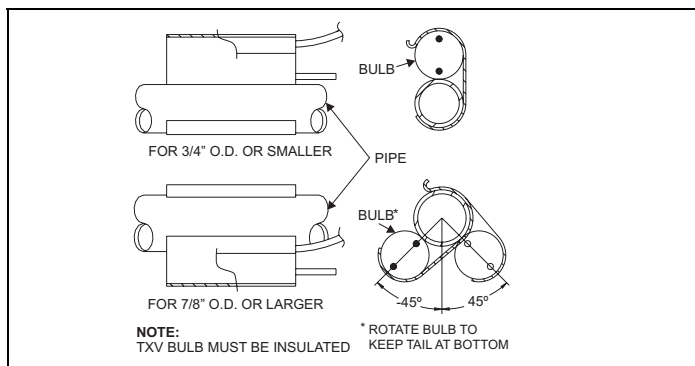

FIGURE 3: Bulb Location
- If the suction line is 3/4" or 5/8" diameter - position the bulb near the top of the copper tube as shown. If the tube is 7/8" diameter - position the bulb near the bottom of the tube. Refer to Figure 3.
1. Position the coil casing over the furnace opening as shown in Figure 3 (Upflow). For G2FD046 only, remove drain pan extension from top flange.